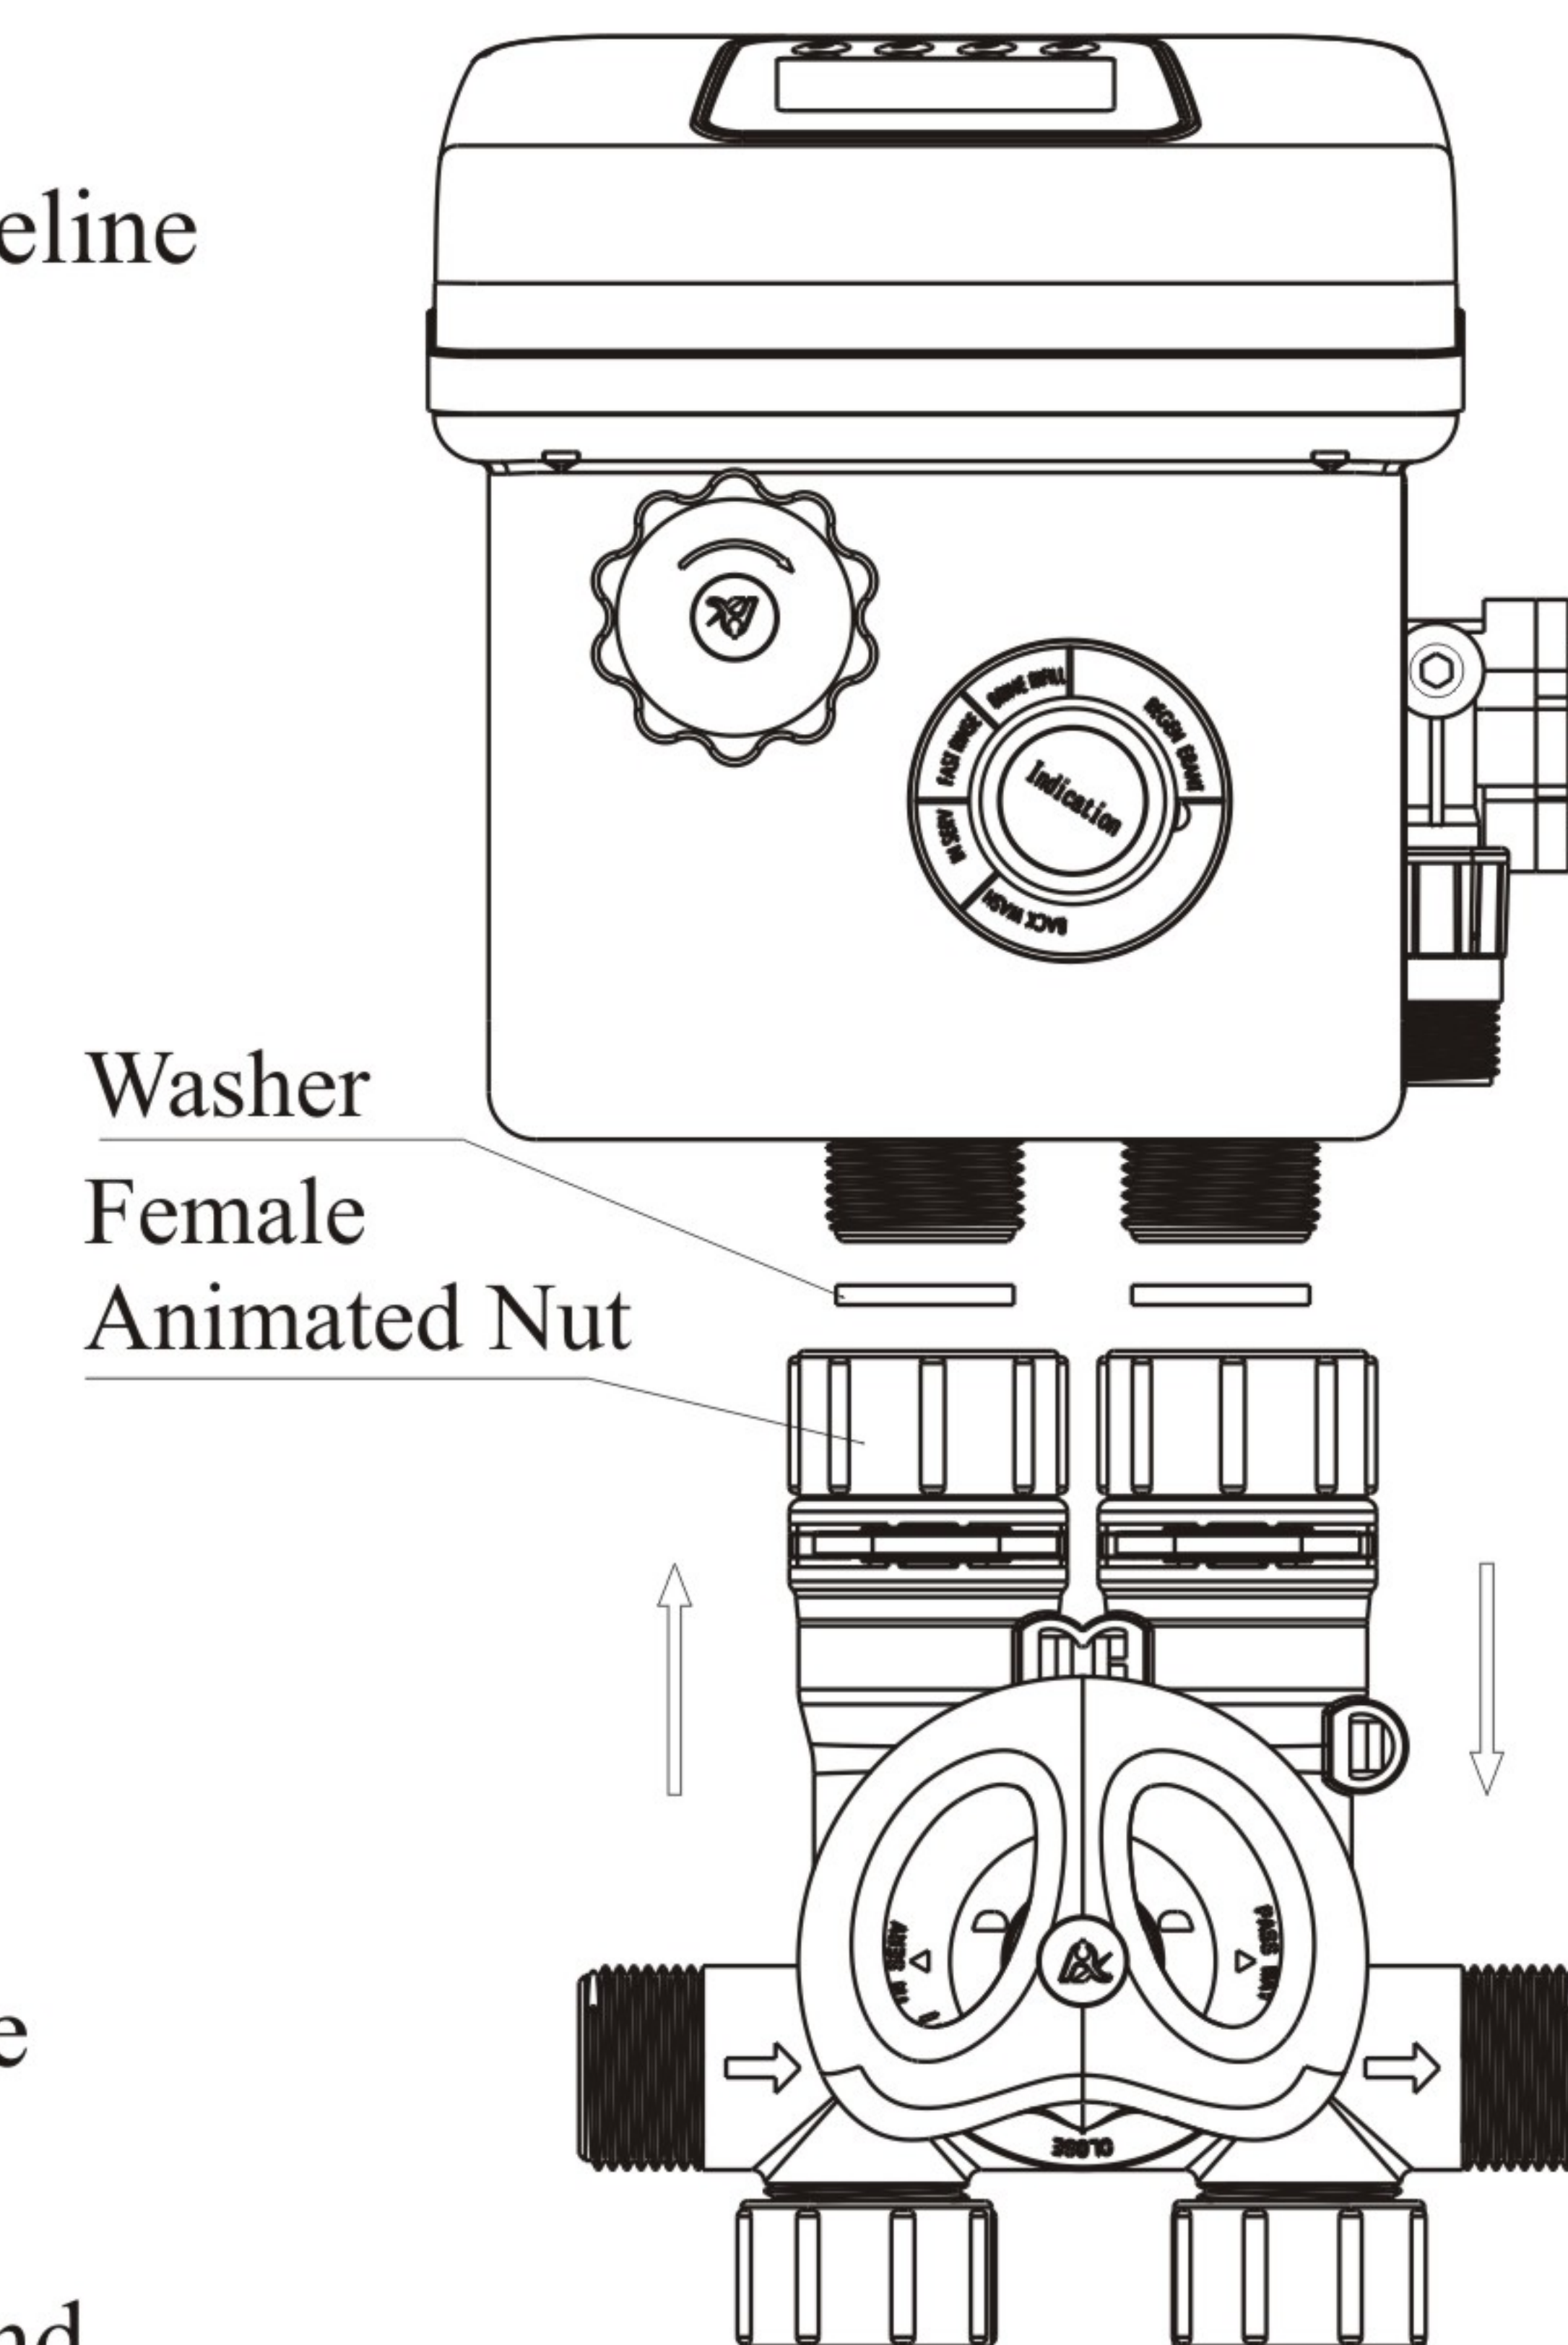

Figure 1-1
- ① Put the washers into the female animated nuts, and tighten with inlet and outlet of F63 control valve (as the Figure1-1 shows).
- ② Connect the bypass with water inlet and outlet.